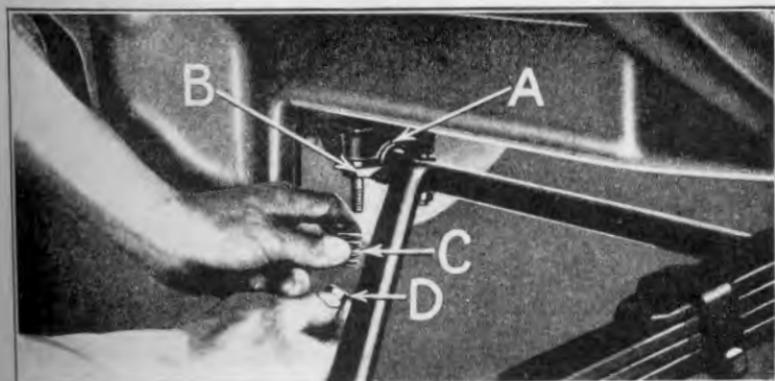

Fig. 88
- Insert ball on radius rod into socket in crankcase (See "A" Fig. 88).